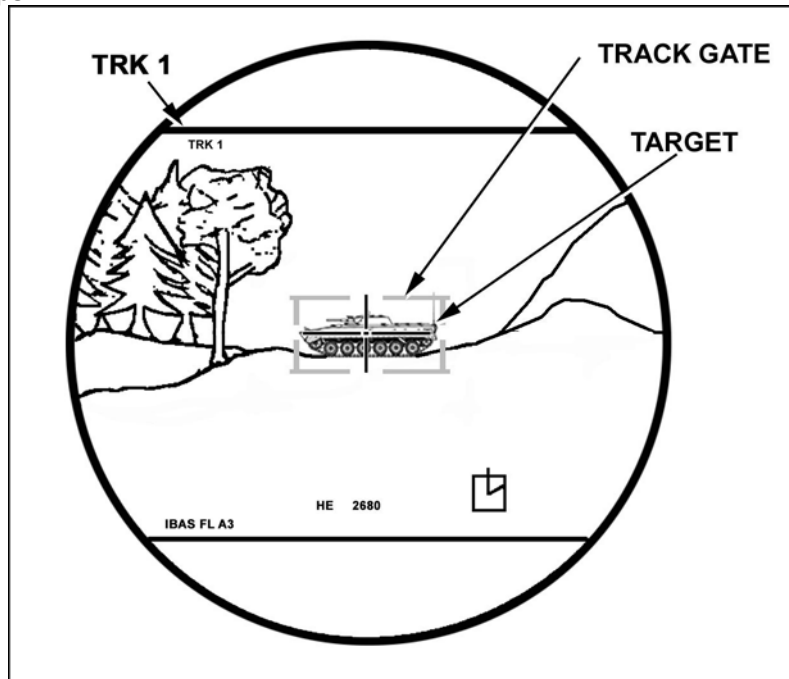

Figure 17. TRACK GATE.
- (1) Momentarily move the AUTO TRK-AUTO PT switch to AUTO TRK.
- (2) Observe that the track box and TRK 1 symbol stop flashing and appear solid and the track box follows the target as long as the target stays within the field of view (Figure 17).